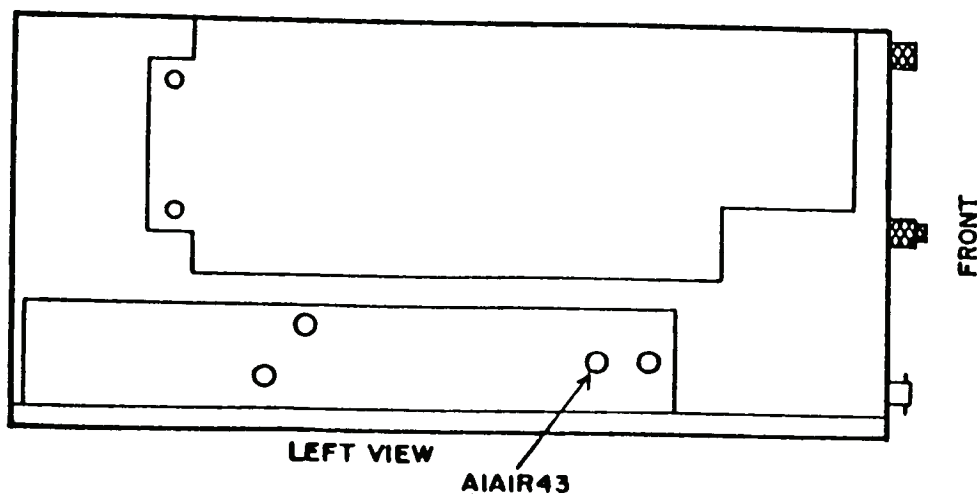

Figure 3. Test instrument - left view.
(29) Set **HI LVL - μ VX100-NORM** switch to **NORM** and **BFO-RF LEVEL** control to **-80 dBm**. Measuring receiver will indicate between -74 and -86 dB.
b. Adjustments. Adjust **BFO-RF LEVEL** control to **-100 dBm**. Adjust A1A1R43 (fig. 3) until measuring receiver indicates -60 dB (R).
(1) Adjust A1A1R43 (fig. 3) until spectrum analyzer indicates signal at the reference established in **a** (5) above (R).
(2) This adjustment may have to be set for best in-tolerance compromise between 100 and 999 MHz.